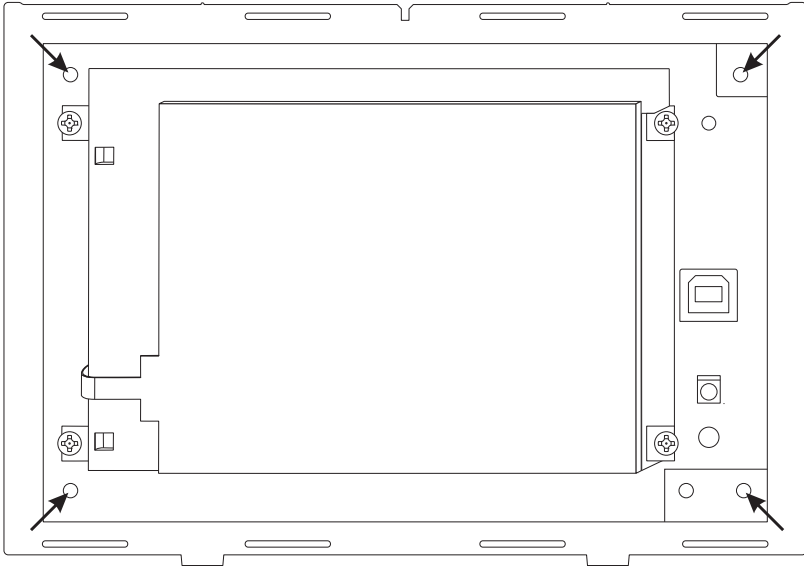

Figure 6 - Remove the flaps and insert the screws into the identified holes
- 6) Insert the screws provided in the parts pack through the holes identified in Figure 6.